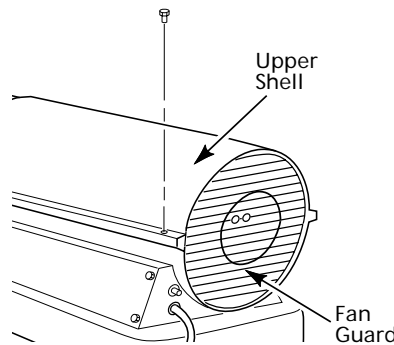

Figure 10 - Upper Shell Removal, Models 3E218D and 3E219C
1. Remove upper shell (see Figure 10).